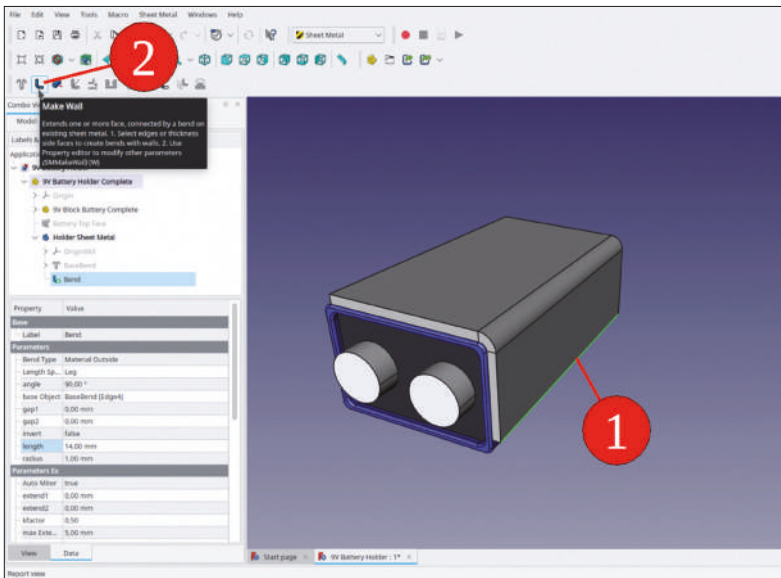

Figure 5-9
12. In the 3D view, mark the outer, lower edge of the sheet metal piece and again click the 'Make Wall' tool button (Figure 5-9).